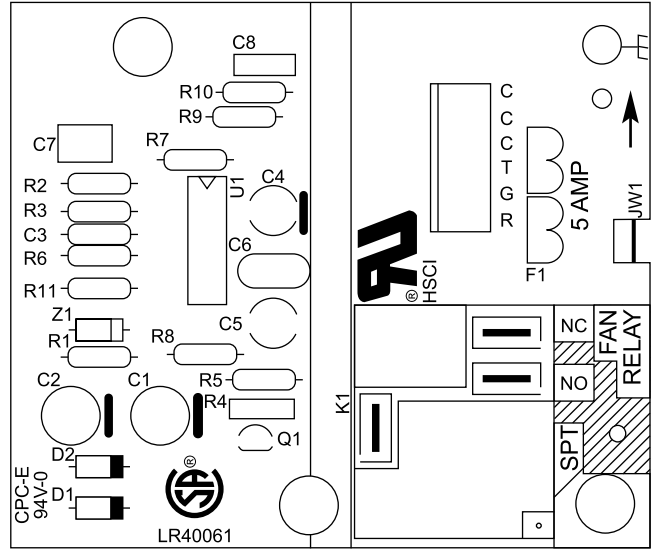

Fig. 1 – Fan Coil Printed Circuit Board (HK61EA006)
Layout of the actual PCB is depicted in Fig. 1 and Fig. 2.
Use wiring schematics shown in Fig. 1 and Fig. 2 as a guide in troubleshooting PCB unless otherwise noted.
- (2.) Check output voltage of transformer secondary side R (red) and C (brown). Be sure transformer output is between 18VAC and 30VAC. If transformer output is incorrect and transformer is receiving correct input voltage (208V or 230V), then transformer needs to be replaced with recommended transformer. If no problem exists with transformer secondary, proceed to items 3 and 4.
- (3.) Check low-voltage fuse shown in Fig. 1 or Fig. 2. If fuse is blown, replace it with an identical 5A fuse. The transformer cannot supply power to board with fuse blown or loose. If fuse blows when unit has power applied to it, the system most likely has one of the following problems:
- (1.) Check wiring of sequencers/relays as shown in Fig. 1 and Fig. 2. Be sure transformer is not shorting out because thermostat wires are miswired.
- (1.) Check wiring of relays as shown in Fig. 1 and Fig. 2. Be sure low-voltage and high-voltage wiring is correct.